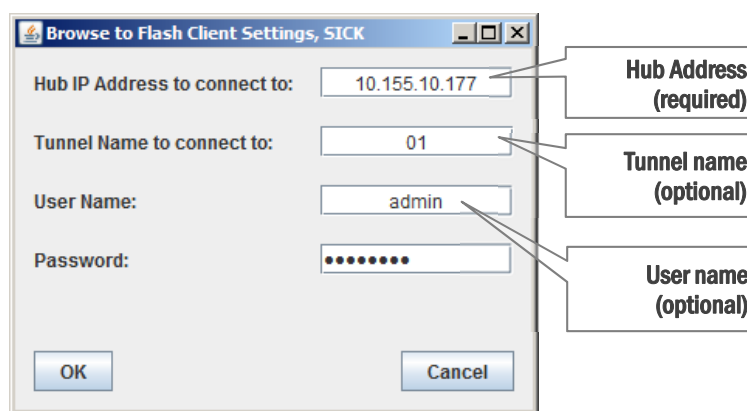

Figure 2-5: Sample Configuration of Flash Client Settings
5. The **Tunnel Name to connect to** field will be blank when launched for the first time. Enter the name of the tunnel which you would like to display by default. In Figure 2-5, the tunnel name used is **01**.